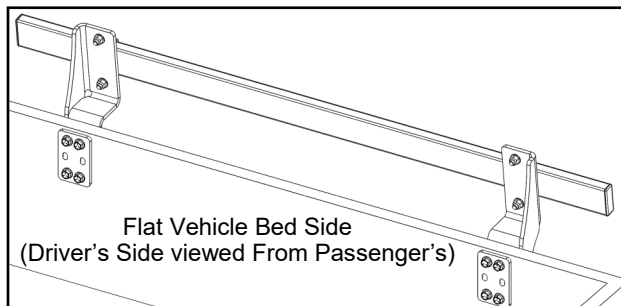

Fig. 8
8. Use the holes in the mounting brackets as a template for where to drill the vehicle. It is recommended to use the two sets of top and bottom holes in the bracket, but any (4) of the holes can be used. If center holes are selected, use a screwdriver, or an awl, to poke holes thru the foam. Drill 11/32" holes through the bed. Fasten with backer plates on opposite side. Tighten fasteners using an alternating pattern. See Fig. 8.